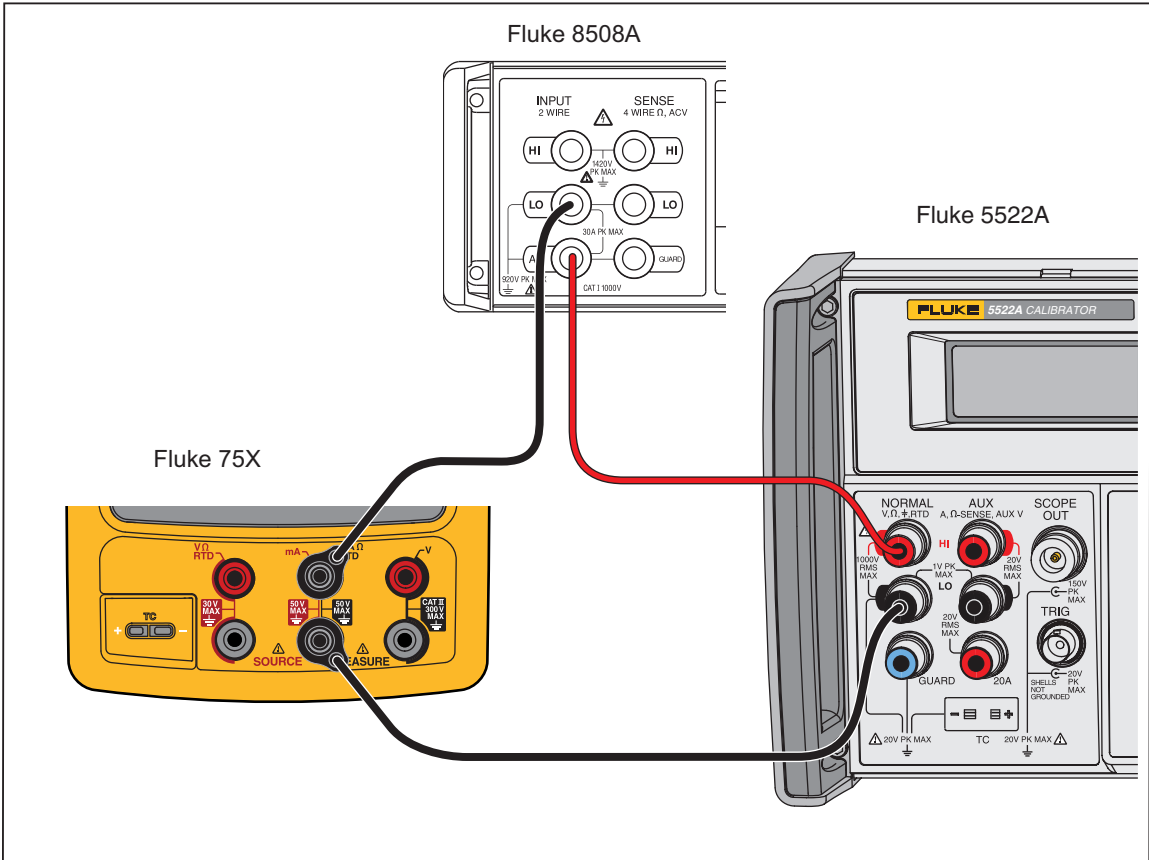

Figure 7. Simulate Transmitter Verification Connections
1. Connect the UUT, 8508A, and 5522A as shown in Figure 7. The 5522A is used as a stable dc voltage source. Its value is not critical, and a different dc source such as a battery can be used if necessary.